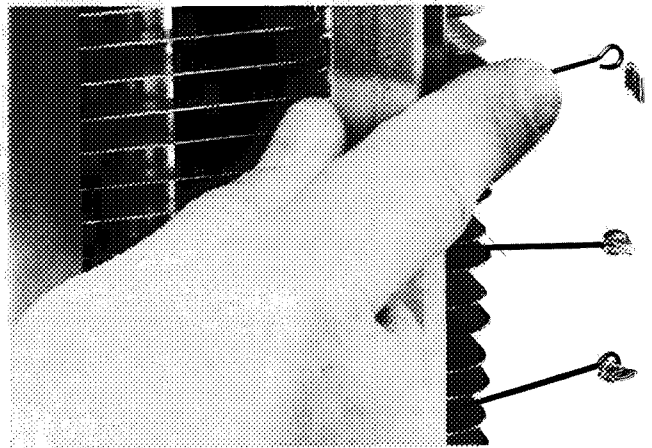

Fig. 16 — Replacing Ionizer Wire
Replacing Ionizer Wires, Fig. 16 — The following procedure is recommended for replacing broken ionizer wires:
4. Depress top ionizer wire spring with finger as in Fig. 16.